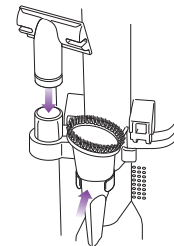

Fig. 4
- 5** Store your on-board tools onto the accessory holder located on the back of the unit. **(Fig. 4)**